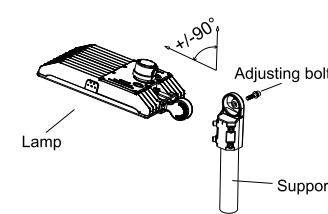

Figure 13
Step 1: Connect the wire correctly and put the wire into pole. Then fasten the locking bolts between slip fitter and the pole. (Figure 13)
Step 2: Loosen the fixing bolts and adjusting bolts, align the fixture to required angle. Tighten adjusting bolt and fixing bolts after the angle is confirmed. (Figure 13)
Notice: Adjustable angle is 0~+/-90° (Figure 13)